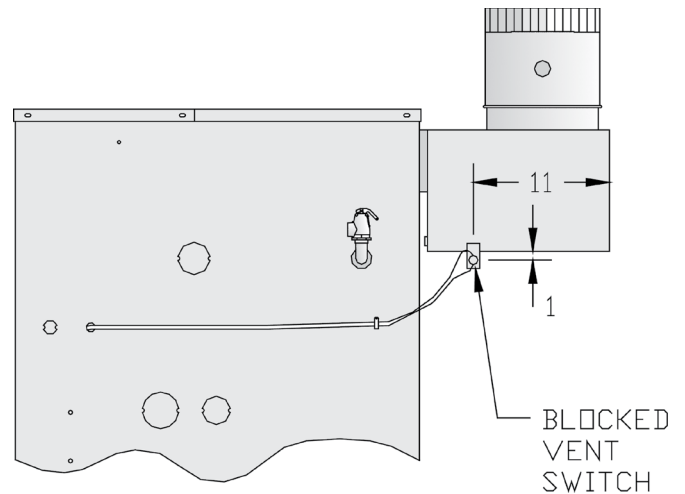

Figure 15: Blocked Vent Switch Installation, IN10 through IN12
2. Models IN10 - IN12. Install on right side of draft hood. See Figure 15. Reset switch must face away from draft hood relief opening.